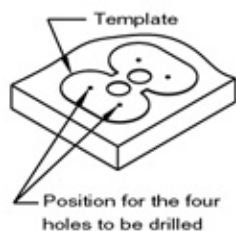

Figure 1
- Place template in desired position on the work surface. Check to be sure there are no support braces or drawers below this area. Drill first 1/8" pilot hole, insert a 1/8" pin (a #8 nail is recommended) in the hole so the template will not move and drill second pilot hole. Insert a second 1/8" pin (nail) in this hole before drilling the remaining pilot holes (Figure 1).